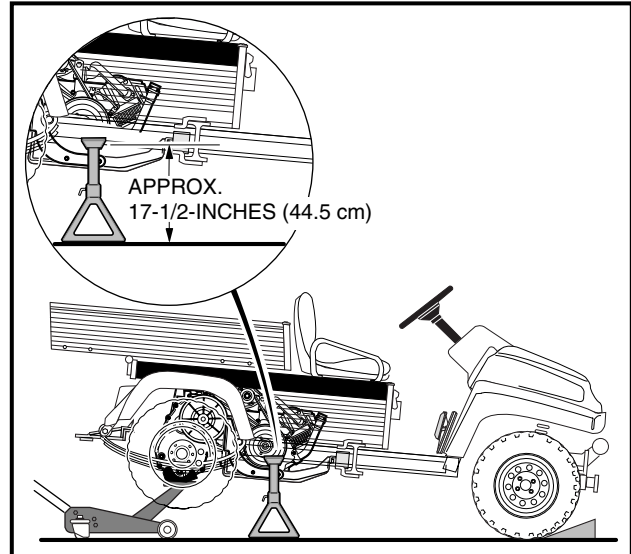

Figure 9-3 Correct Positioning of Jack Stands
4. Position jack stands under the two side stringers as shown (**Figure 9-3, Page 9-3**). Lower the floor jack to let the jack stands support the vehicle. See **WARNING "Lift only one end..."** in **General Warning, Section 1, Page 1-2**.